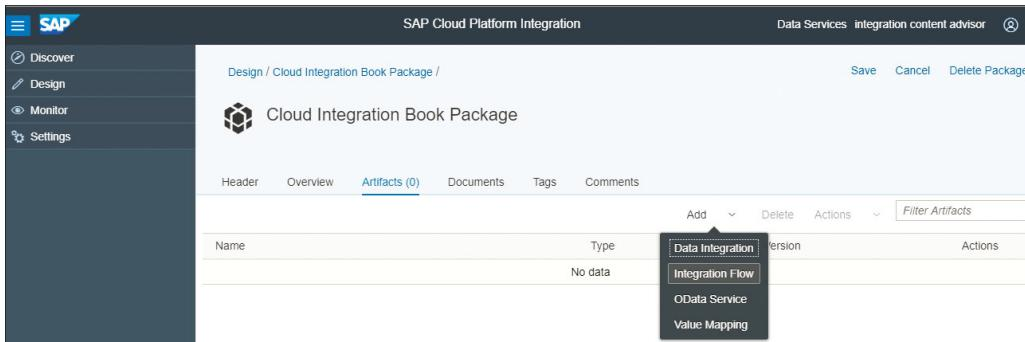

Figure 4.6 Adding an Integration Flow to the Newly Created Package
4. From the resulting page, navigate to the **Artifacts** tab and add an integration flow to your package by choosing **Integration flow** from the **Add** dropdown list (see Figure 4.6).